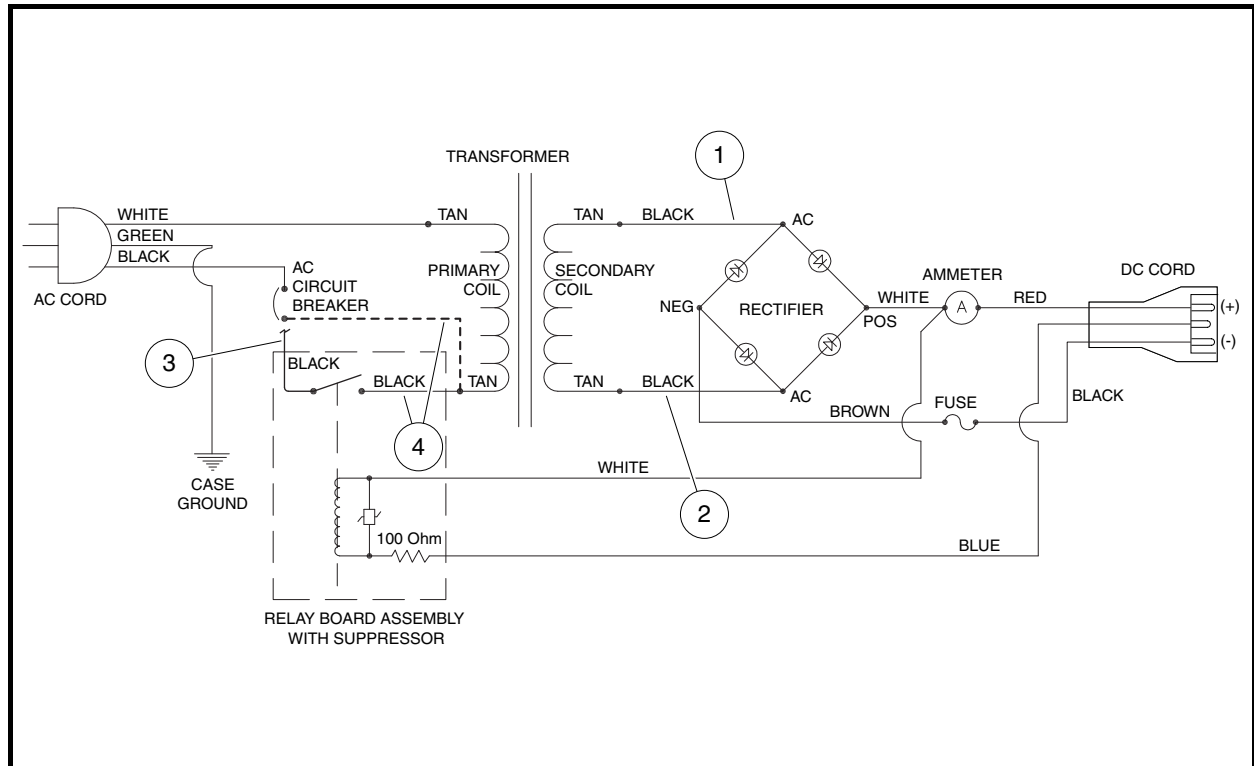

Figure 6-26 PowerDrive 3 Charger Wiring Diagram (Relay Bypassed)
- To bypass the relay, remove the black wire (3) from the AC circuit breaker and disconnect the black wire (4) from the relay. Connect the black wire (4) to the AC circuit breaker (Figure 6-26, Page 6-35). See following DANGER.
8. Disconnect the transformer wire (4) from AC circuit breaker and connect it to the relay. Connect the black wire (3) from the relay to the AC circuit breaker (Figure 6-26, Page 6-35). See following WARNING.